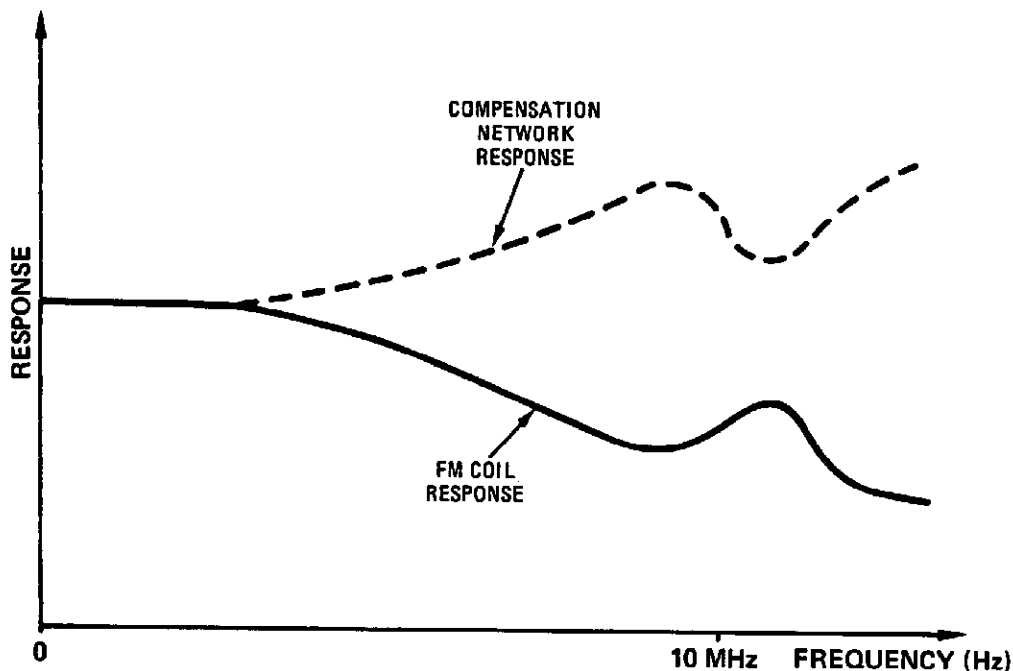

Figure 8-35. Plot of FM Coil Response Versus Modulation Frequency
The output of the filter network is limited to about  $\pm 3$ V with a network made up of VR1, VR2, R14, R15, CR3, and CR4. Q5A and Q5B are connected as emitter followers and buffer the output of the filter network to video amplifier U10. Analog switch U11 is always set to switch position zero. Frequency response shaping to compensate for the roll-off versus frequency of the FM coil is produced by the network made up of C11, C12, C14, R21, R22, R23, R75, and L1 connected across pins 9 and 4 of U10. This network is actually in the emitter of the input differential amplifier of U10, producing greater gain with decreasing impedance. Figure 8-35 shows the approximate response versus frequency of the YO FM coil and the compensation network. Adjustments R19 (FM OFFSET), R75 (HI), and C14 (LO) adjust the shape of the compensation network response.